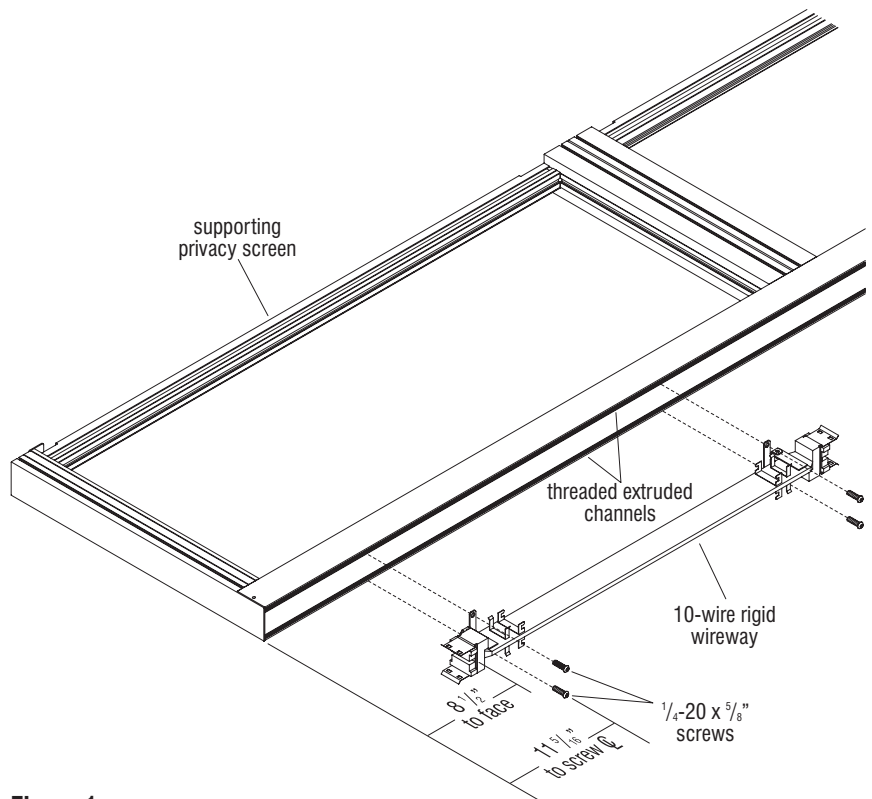

Figure 1
1. Carefully lay supporting privacy screen onto it's side as illustrated and locate the two threaded extruded channels at the underside of the screen (Figure 1).
3. The mating face of the 10-wire rigid wireway must be $8\frac{1}{2}"$ from the end of supporting privacy screen when mounted to the underside of the screen. Alternately, a measurement of $11\frac{5}{16}"$ can be made from the end of the supporting privacy screen underside to the location where two $\frac{1}{4}-20 \times \frac{5}{8}"$ screws will mount the 10-wire rigid wireway into the channel (Figure 1).
4. Make careful measurements and secure 10-wire rigid wireway(s) to threaded extruded channels using $\frac{1}{4}-20 \times \frac{5}{8}"$ screws (Figure 1 & Detail A).
under the units in the field (Figure 1, page 76). The instructions to follow illustrate an example of common components. Your configuration may vary.